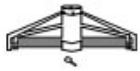

Fig.1
3. Insert the bottom section (C) of the trunk into the assemble stand. (See Fig.1)
1. Tree stand consists of a metal stand and a single eye bolt. (See Fig.1)